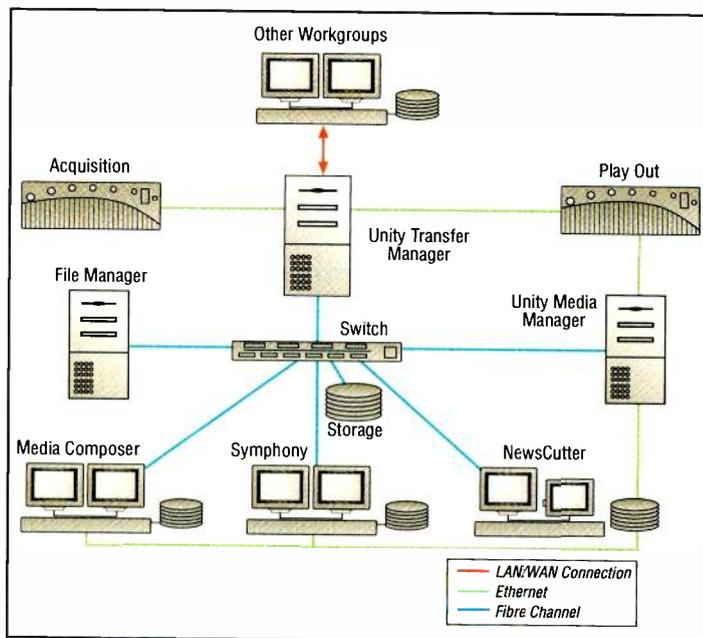

Figure 5. Avid's Unity MediaNet SAN-based system
**Post production.** Avid and Discreet offer server products for editing and post production. Here, the need is often for dual-channel support for a number of editors with real-time uncompressed video, which makes heavy demands on bandwidth. Avid's popular Unity MediaNet SAN-based system (see Figure 5) uses Fibre Channel-connected disks and supports up to 25 dual-stream clients